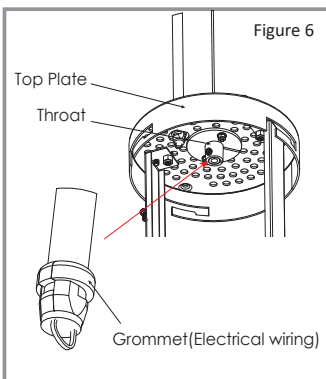

Figure 6
- Insert grommet (electrical wiring) into top plate opening and make wiring connections as needed. The battery and driver are pre-wired. Connect line, neutral and ground wires to corresponding open wagos. Follow attached wiring diagram provided on page 1. Line, neutral and ground are to be spliced as needed. (Figure 6)